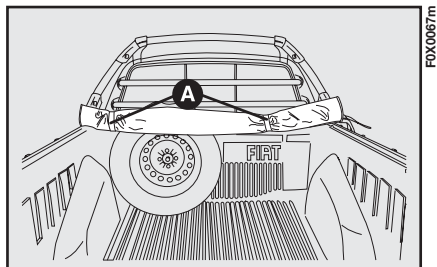

fig. 86
- lock the wound up canvas against the cab using the elastic bands provided A-fig 86;